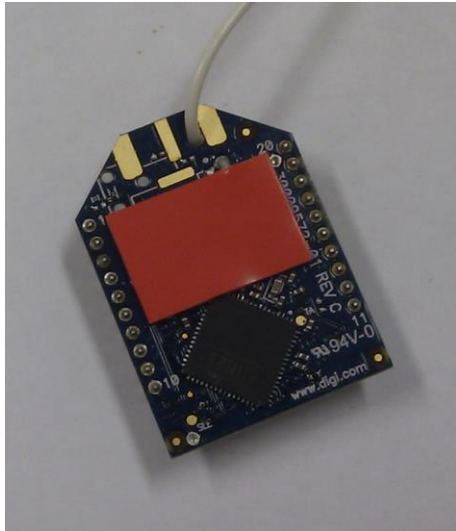

Figure 2.
1. Attach the 2x16 mm piece of dual- sided adhesive tape to the 21220028 RF-module as shown in Figure 2.